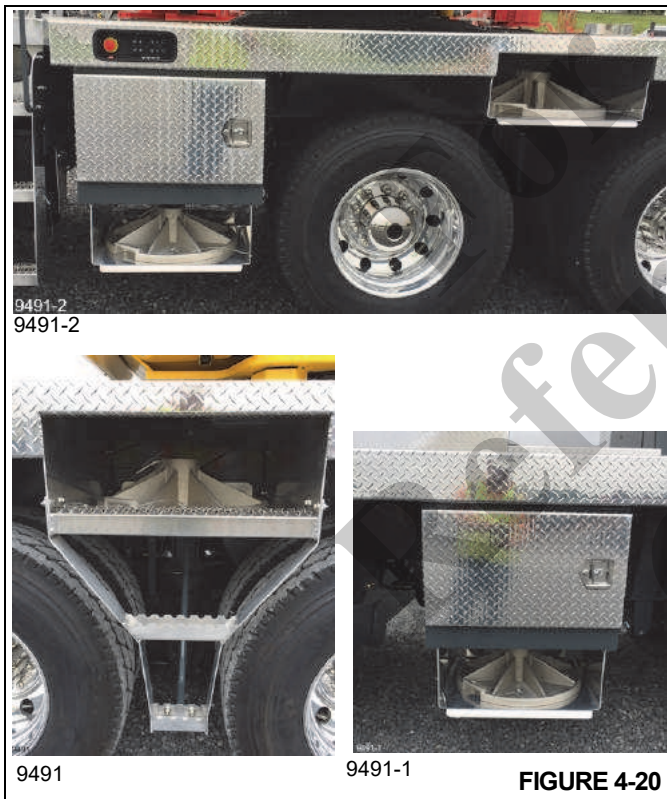

FIGURE 4-20
9. Make sure the outrigger pads are secured in position with the retaining pins before traveling (Figure 4-20).
9. Stow outrigger pads (Figure 4-20).